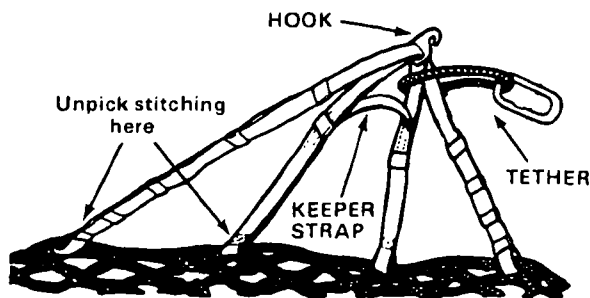

Figure F-2. Unpick Border Strap Stitching
Step 1 - Unpick the stitching that attaches one end of the lifting strap to the border cord (Figure F-2).